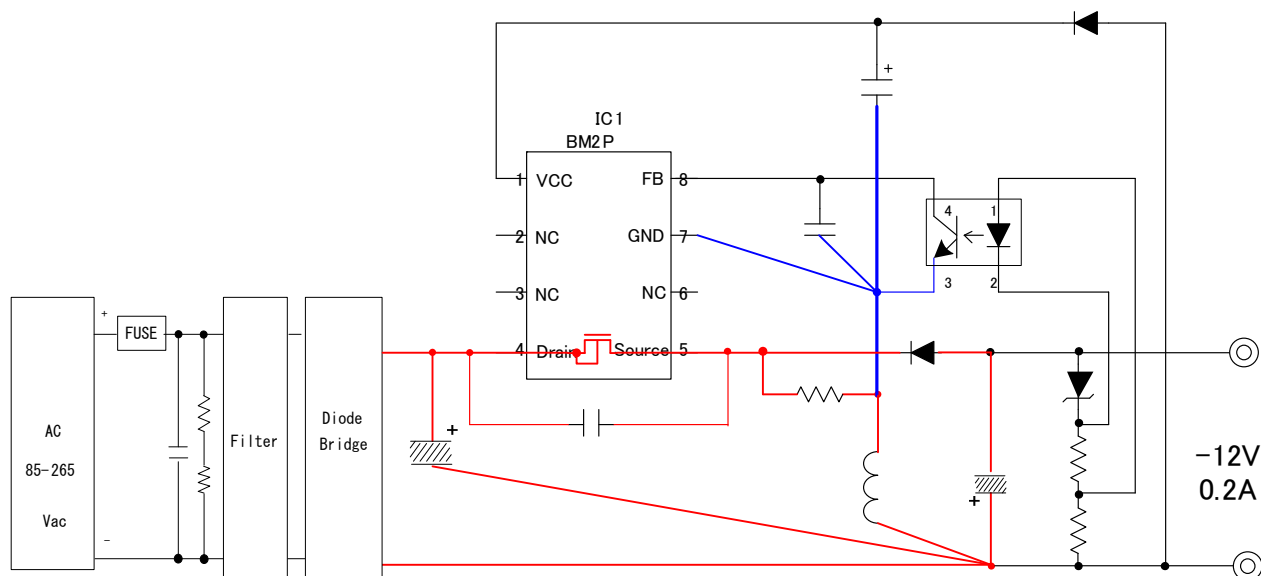

Figure 25. Board Layout Pattern
- ① The red lines shown in Figure 25 are large current pathways. Therefore, in this layout, these should be as short and thick as possible since they can cause ringing, loss, etc. Also, any loops that are generated in the red lines should be made as small as possible.
- ② Be sure to connect the GND of the red and blue lines at a single point.
- ③ The blue lines are GND lines for IC control. They do not have any large current flow, so they are susceptible to the effects of noise. Therefore, they should be laid out independently of the red lines.
- ④ Do not allow route high impedance lines for IC control directly under the coil due to the effects of magnetic flux.
- ⑤ Lay out capacitors for the VCC and FB pins as close as possible to the IC pins.